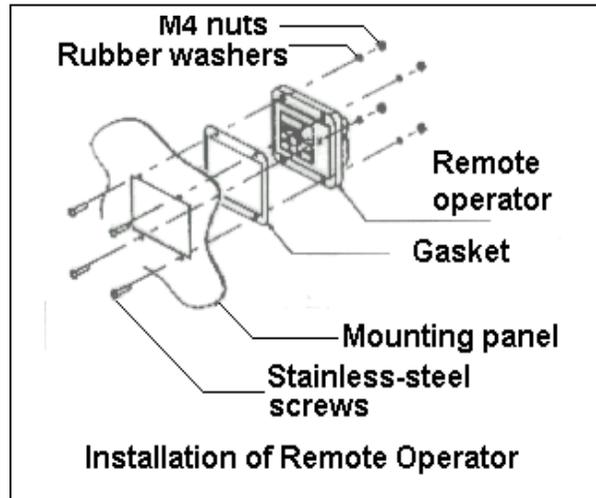

Figure 4: Flush Mount Installation
13. For a flush mount, apply the gasket to the front side of the digital operator, and install the remote operator from the rear side of panel. Insert the screws through the front side of the panel and then mount the washers and nuts to the rear side of the panel. Four washers are not needed in this application. Tighten screws gradually from the front side of the panel to prevent damaging the rubber gaskets. See Figure 4.